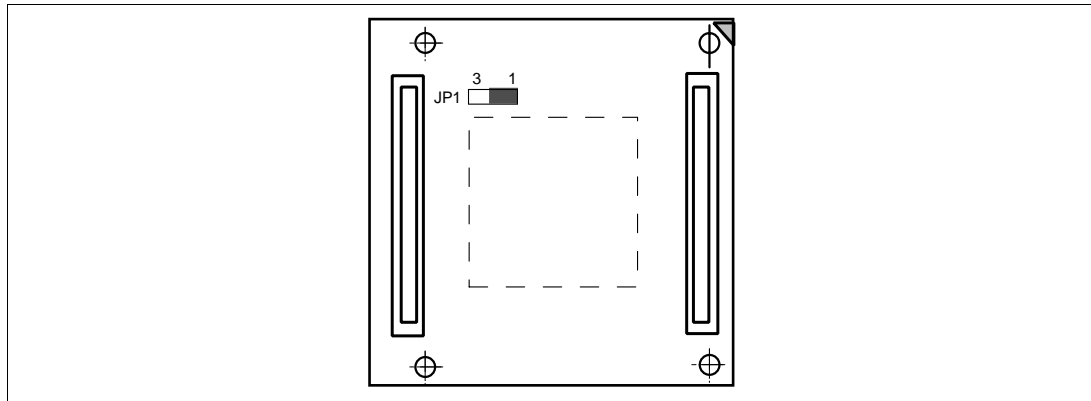

Figure 11 JP1 Jumper
6. The JP1 jumper is used for testing. Do not remove the jumper pin that is inserted in the side of pin1 and pen2 in figure 11.